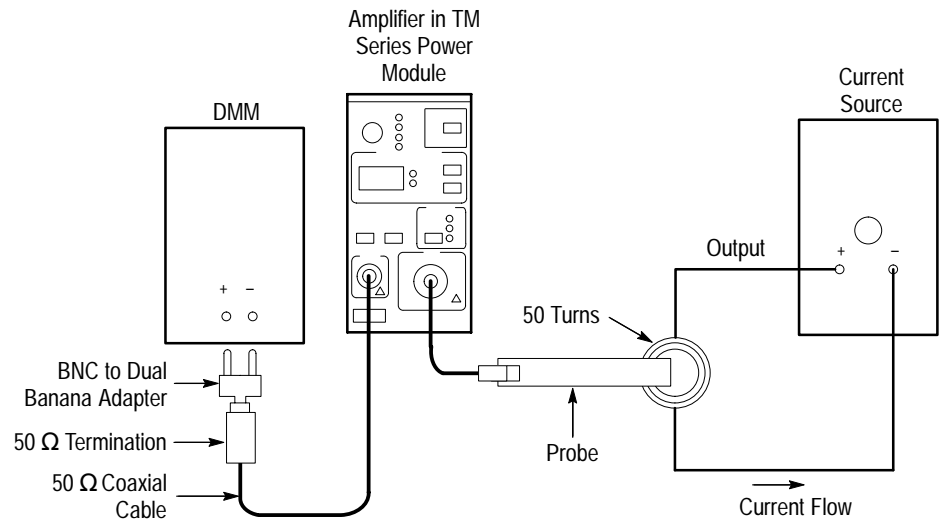

Figure 17: DC Gain Accuracy Test Setup for A6303/A6303XL
- Connect the current loop to the current source as shown in Figure 17.
3. Clamp the current probe around the one conductor of the current loop. (See Figure 17 on page 51.) Check that the arrow-shaped indicator on the probe points away from the current source.